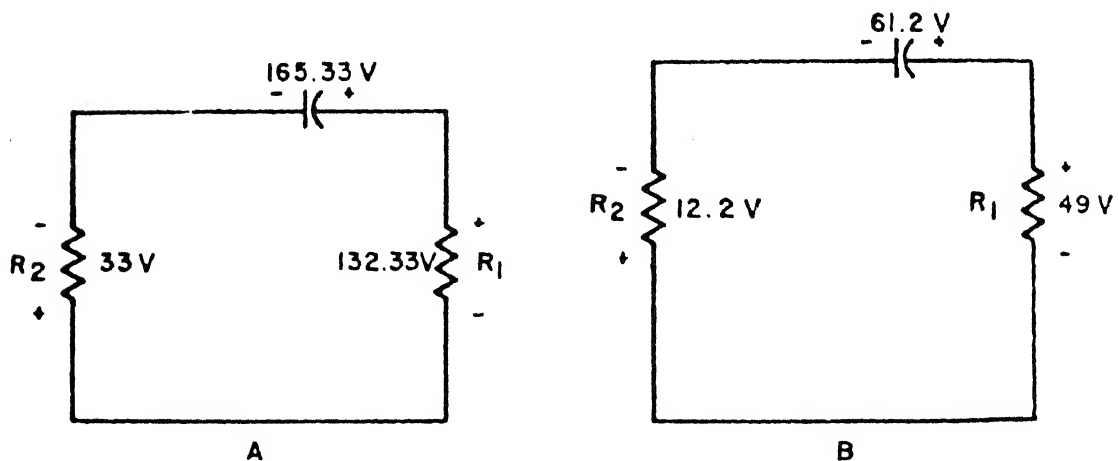

Figure 9
8. The switch is now thrown to position 5. The RC time will increase, since another resistor will be in series with R_1 . The effective voltage will appear across the total resistance in the circuit. The voltage will divide across the individual resistors, proportional to their resistance. Refer to figure 9.